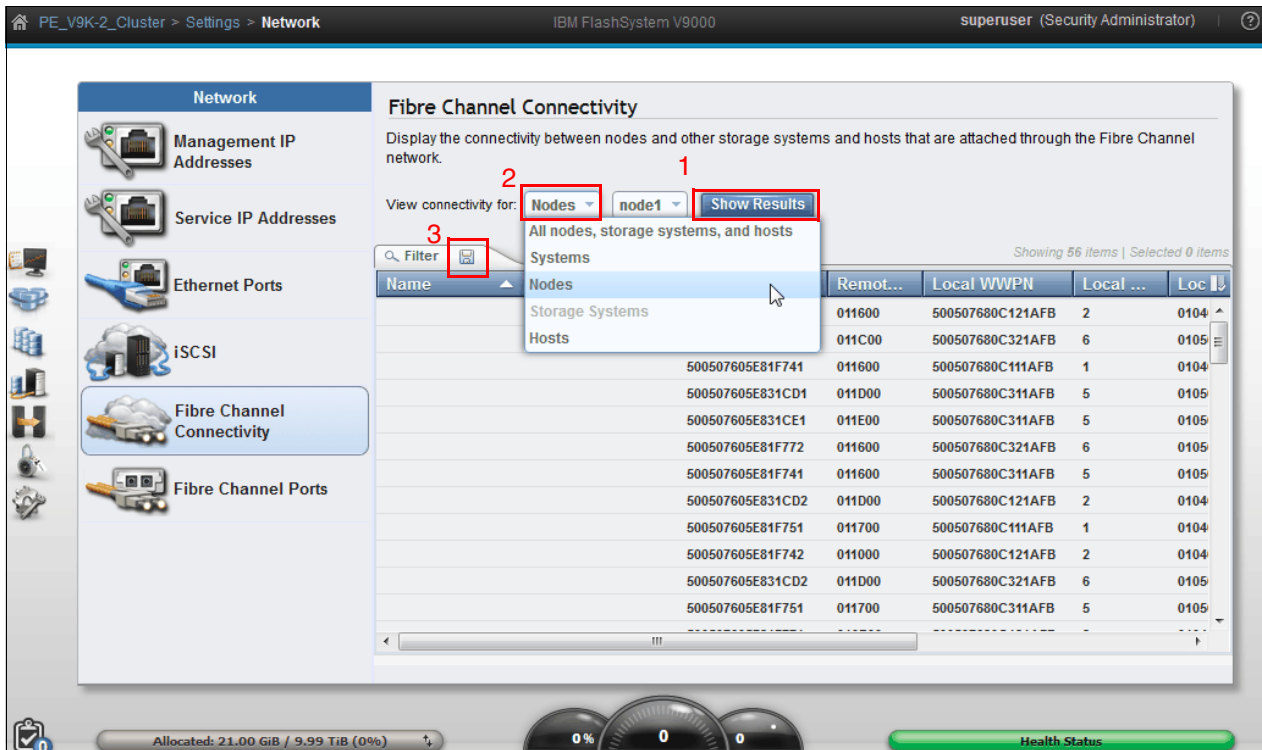

Figure 9-29 Fibre Channel Connectivity window
Use the Fibre Channel Connectivity panel (Figure 9-29) to display the Fibre Channel connectivity between AC2 or AC3 control enclosures, AE2 storage enclosure, and hosts. Click **Show Results** (1) to populate the panel. IBM FlashSystem V9000 individual components are selected (2). You can save the report by clicking the **Save** icon (3).